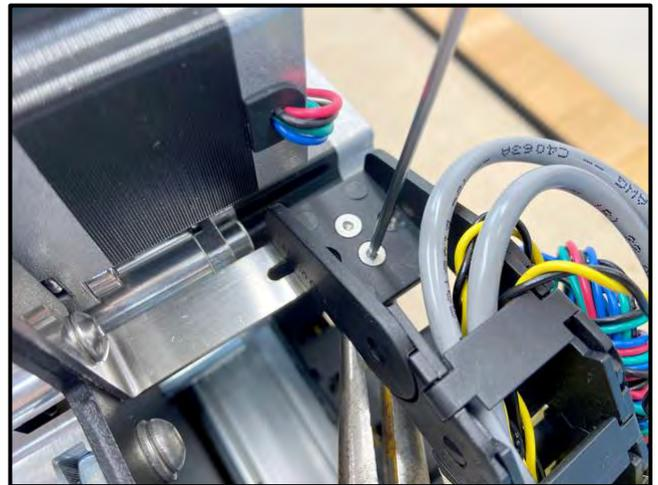
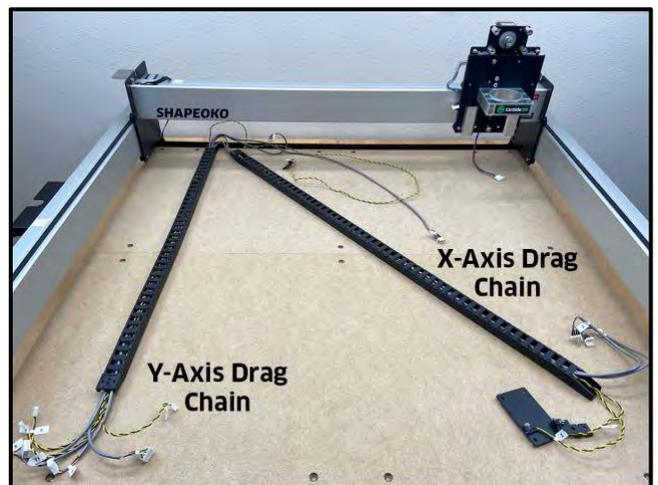

Figure 5
Figure 6
4. Disconnect the X-Axis drag chain from the X-Axis head bracket on the rear of the X/Z-carriage. See **Fig. 5**.
- a. Use a 2mm hex key and needle nose pliers to remove the two (2) M3×6mm FHS and two (2) M3 nylon lock nuts securing the drag chain to the head bracket.
- a. Use a 2mm hex key and needle nose pliers to remove the two (2) M3×6mm FHS and two (2) M3 nylon lock nuts securing the drag chain to the bracket.
6. Remove the drag chain from the rails and lay it on the baseframe as shown in **Fig. 6**.